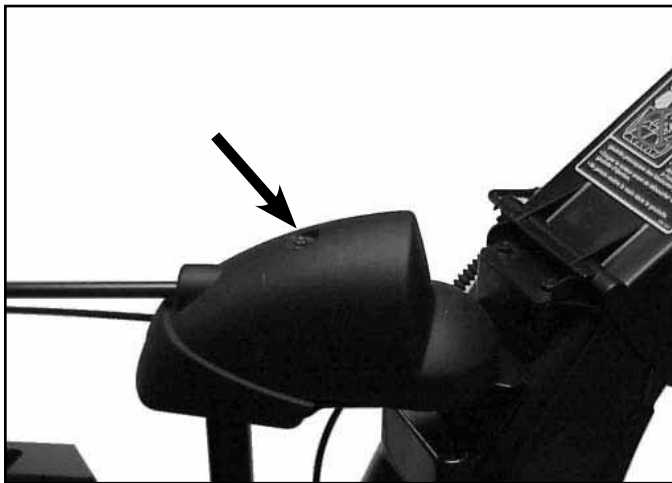

Fig 217
1. To disassemble the chute gears, begin by removing the screw on the chute gear cover (Fig. 217).